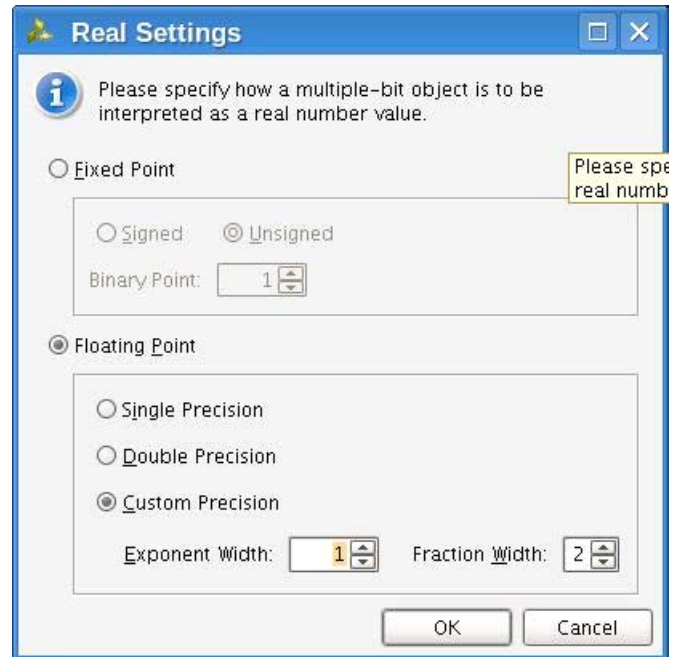

Figure 6-3: Real Settings Dialog Box
- Real radixes cause bus values to be interpreted as fixed point or floating point real numbers, as determined by the settings of the **Real Settings** dialog box, shown in Figure 6-3, page 95.